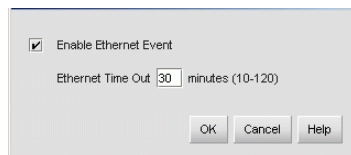

Figure 35: Configure Ethernet Event dialog box
1. Choose **Monitor > Ethernet Event**. The Configure Ethernet Event dialog box displays, as shown in Figure 35.